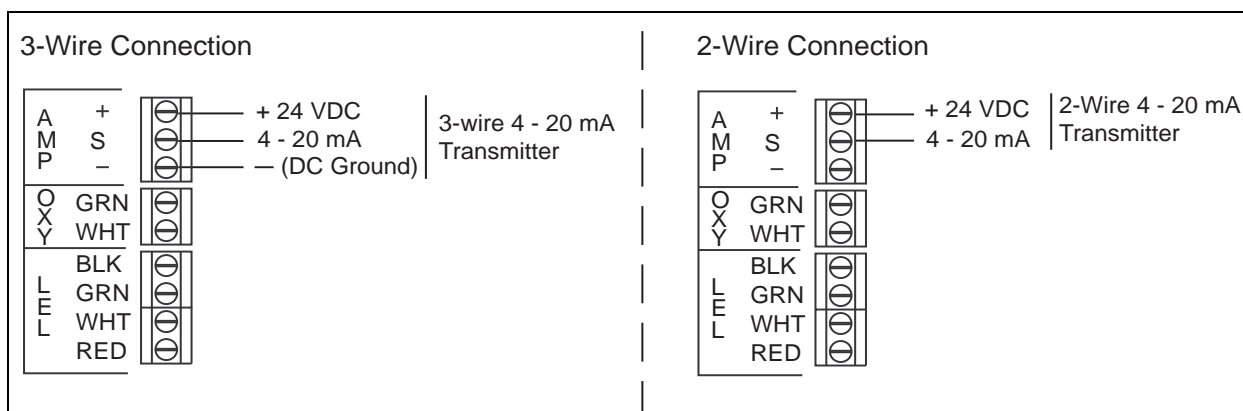

Figure 11: Generic 4 - 20 mA Transmitter Wiring
6. Connect the wires from the transmitter to the AMP terminal strip. Figure 11 below illustrates typical transmitter wiring connections. See the transmitter instruction manual for controller terminal connections. If shielded cable is used, connect the cable shield's drain wire at the Beacon 110 to the ground stud on the main PCB.